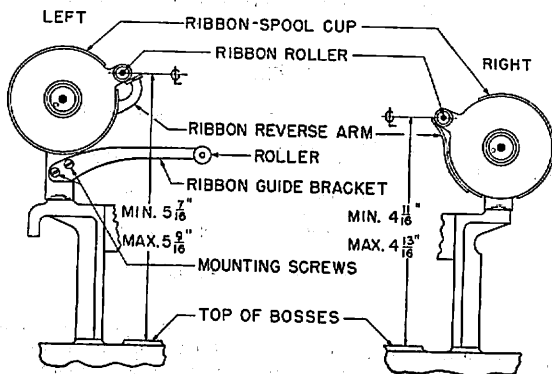

Fig. 14
- (a) The center of the left ribbon-spool cup-roller should be Min.  $5\frac{7}{16}$ " , Max.  $5\frac{9}{16}$ " from the surface of the boss on which the pivoted sensing unit is mounted. Fig. 14
- (b) The center of the right ribbon-spool cup-roller should be Min.  $4\frac{11}{16}$ " , Max.  $4\frac{13}{16}$ " from the surface of the boss on which the code-punch assembly is mounted. Fig. 14